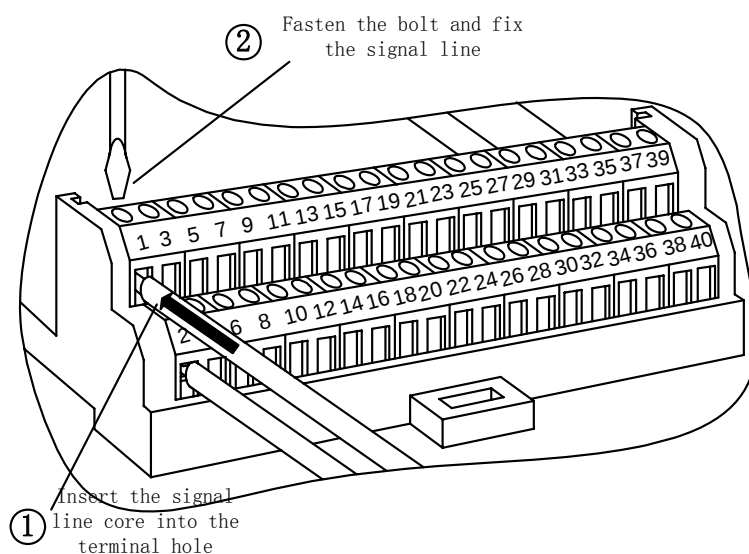

Fig 2-27 Connect the Signal Cable to Terminals
Step 6: As shown in Fig 2-27, connect the signal cables to terminals of base and field equipment.